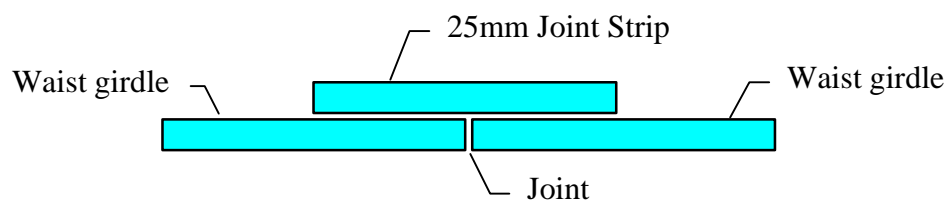

Figure 25 Joining the waist girdle. The joint strip adds strength and stability to the join.
2. Wrap the girdle piece into a circle so the ends touch. The spring property of the material maintains a circular configuration automatically. Place a 25mm (1in.) strip of the bumper material across the joint. Bond the strip across the joint with the special polycarbonate acrylic agent and clamp firmly (Figure 25). Wait for the bond to form. The bonding time is specified by the manufacturer of the bonding agent and may vary with temperature and pressure.